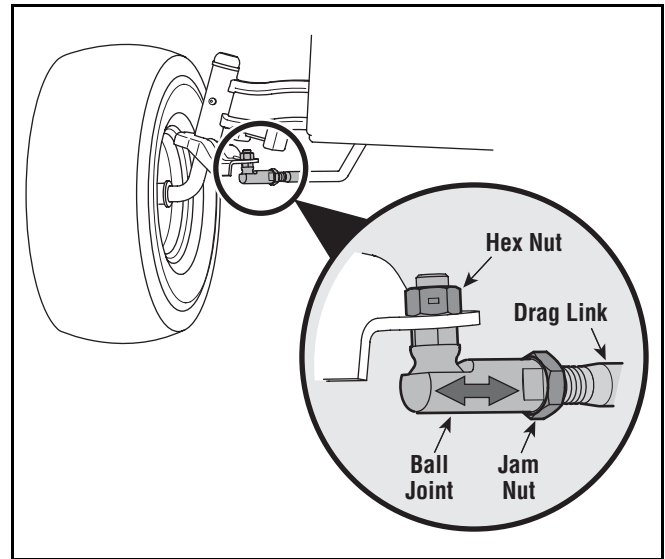

Figure 11
- Loosen the jam nut found on the drag link at the rear of the ball joint. See Figure 11.